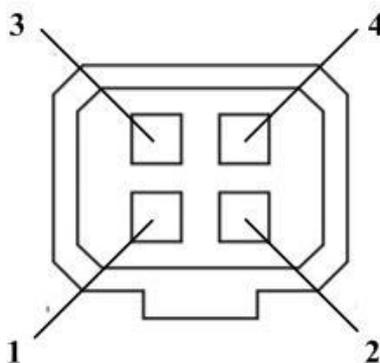

Figure 2-7 Auto-iris Interface
- The type of auto-iris interface is shown in Figure 2-7, and the definition of each pin is shown below: